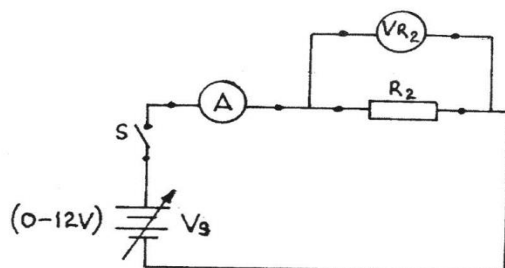

Figure 2
- Connect the circuit as shown in Figure 2.
- Set the power supply unit to 0 V and close the switch (S).
- Open switch (S) and switch off the power supply unit.
- (a) (i) **Identify the type of wiring shown in the sketch in Figure 2.**
(ii) **Name the parts of the sketch labelled J, K, L, M and N in Figure 2.**
(b) **State the purpose of the parts of the sketch labelled K, L and M in Figure 2.**
(c) **State what (-) and (+) represent in the sketch in Figure 2.**